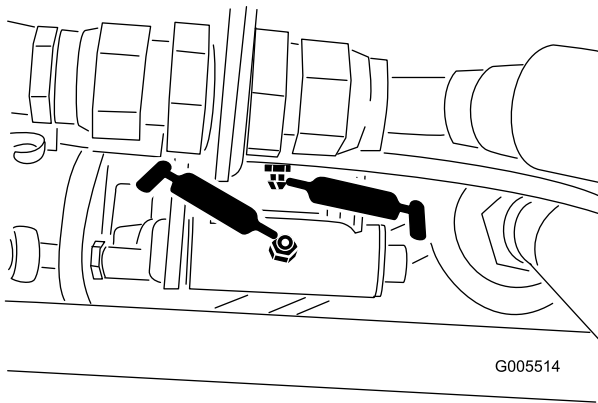
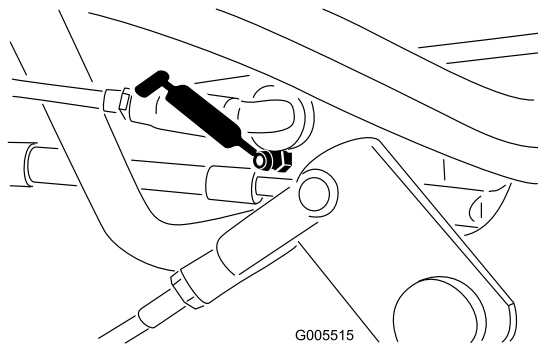

Figure 45
Figure 46
- Speed selector linkage (Figure 45 & Figure 46)